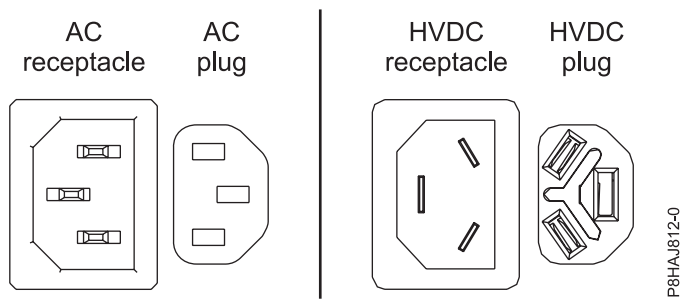
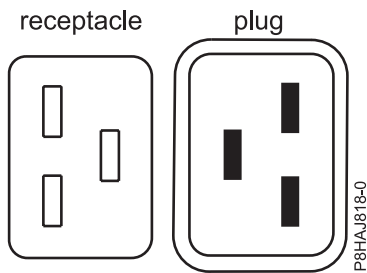
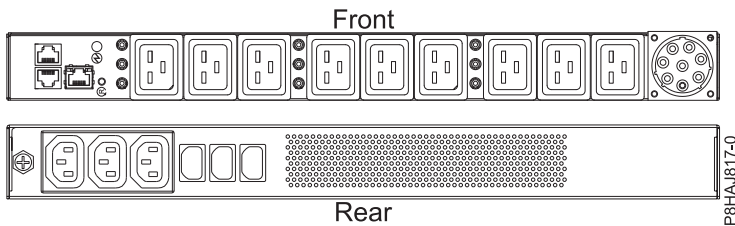

Figure 37. AC and HVDC connectors
Figure 38. Connectors for the 8408-44E system
Figure 39. PDU for the 8408-44E system
Figure 37 shows the supported alternate current (AC) and high voltage direct current (HVDC) connectors. Figure 38 and Figure 39 show the supported connectors and power distribution unit (PDU) for 8408-44E.